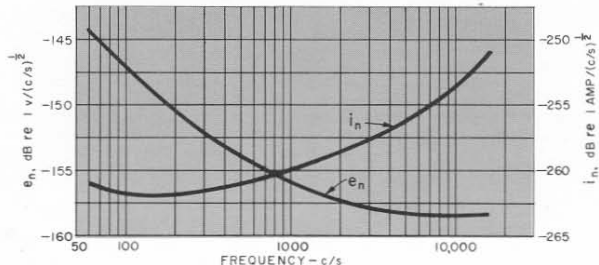

Figure 2. Typical frequency spectra of internal noise.
volt/ $\mu$ bar this noise corresponds to an equivalent sound level (C)=20 dB. When an analyzer is used, the equivalent level will be even lower, as determined by the bandwidth. Typical frequency spectra of the equivalent  $e_n$  and  $i_n$  generators2 are shown in Figure 2.